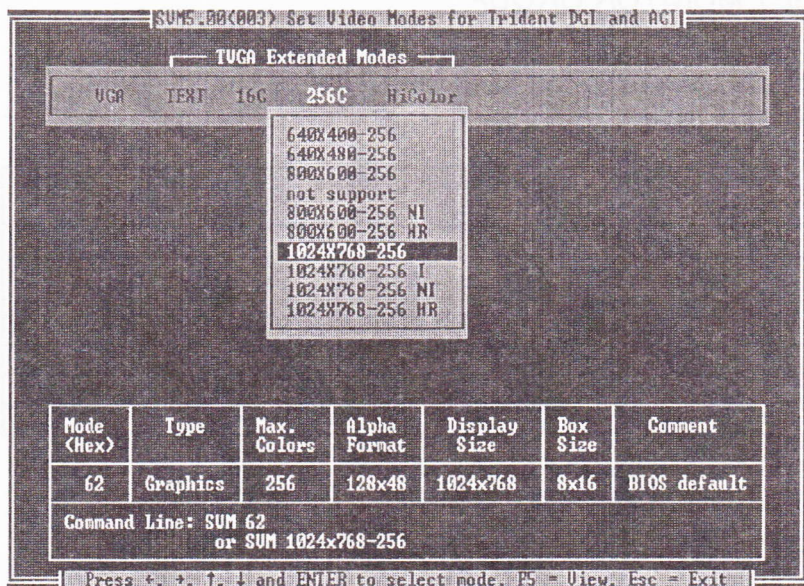

FIGURE 12.
2. Type SVM to pull up the menu (see Figure 12).
The graphics adapter can be tested for each resolution/ mode by first high-lighting the selection (e.g. 1024x768 256 colors as shown in Figure 12) by use of the arrow keys, then pressing the F5 key.